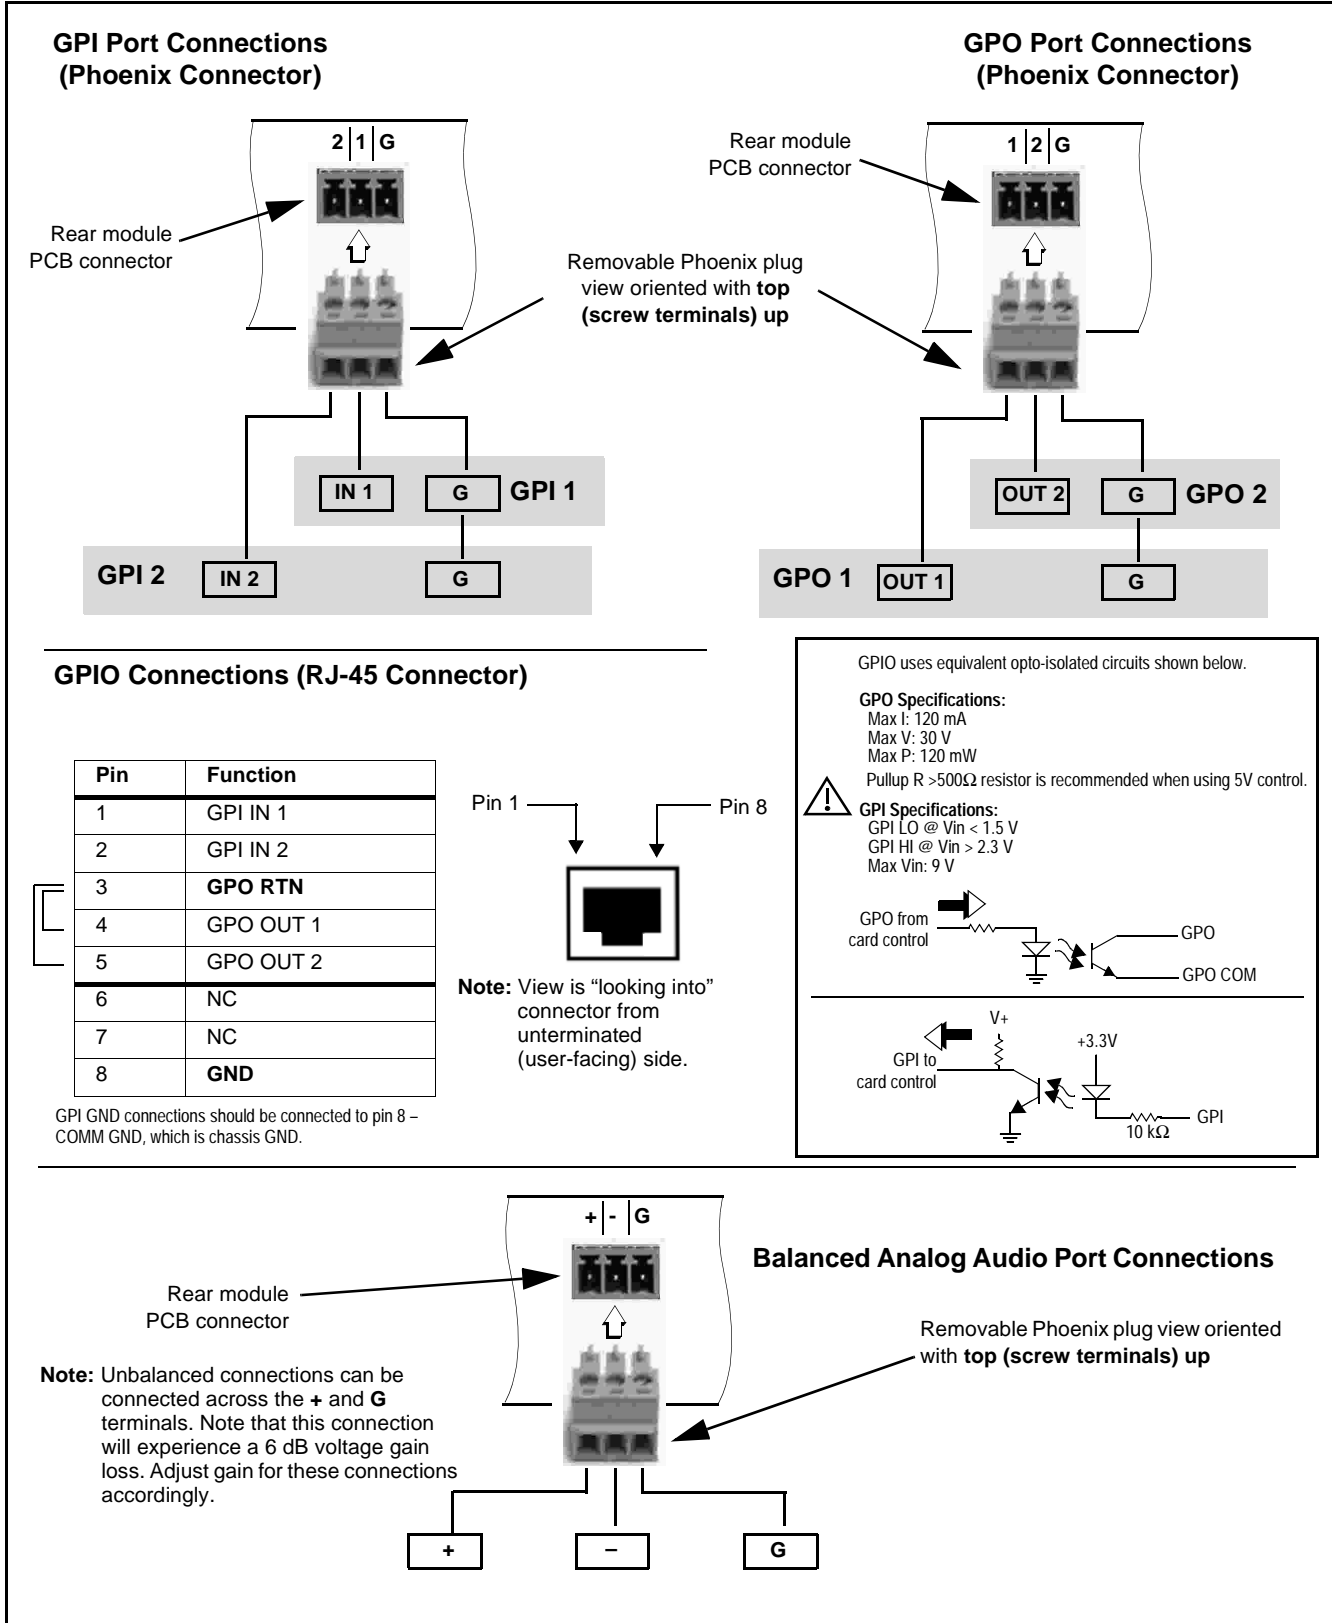

Figure 2-2 GPIO, and Analog Audio Connector Pinouts
Figure 2-2 shows connections to the card multi-pin terminal block connectors. These connectors are used for card serial comm, GPIO, and balanced analog audio connections.
**Note:** It is preferable to wire connections to plugs oriented as shown in Figure 2-2 rather than assessing orientation on rear module connectors. Note that the orientation of rear module 3-wire audio connectors is not necessarily consistent within a rear module, or between different rear modules. If wiring is first connected to plug oriented as shown here, the electrical orientation will be correct regardless of rear module connector orientation.